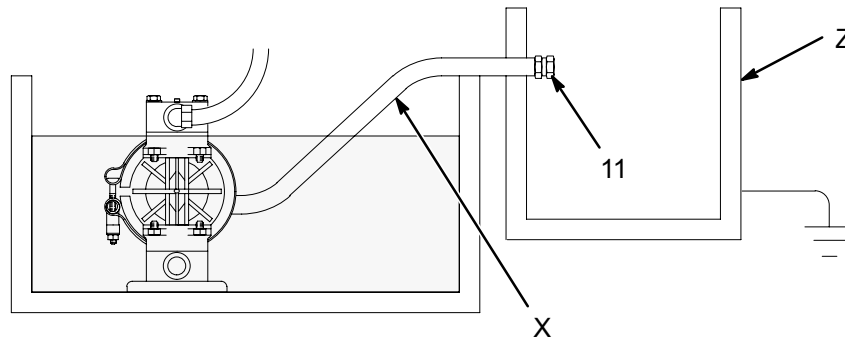

Fig. 8
Diaphragm failure will cause the fluid being pumped to exhaust with the air. Place an appropriate container at the end of the air exhaust line to catch the fluid. See Fig. 8.
2. Install an electrically conductive air exhaust hose (X) and connect the muffler to the other end of the hose. The minimum size for the air exhaust hose is 3/8 in. (10 mm) ID. If a hose longer than 15 ft (4.57 m) is required, use a larger diameter hose. Avoid sharp bends or kinks in the hose.
3. Place a container (Z) at the end of the air exhaust line to catch fluid in case a diaphragm ruptures. If the fluid is flammable, ground the container. See Fig. 8.